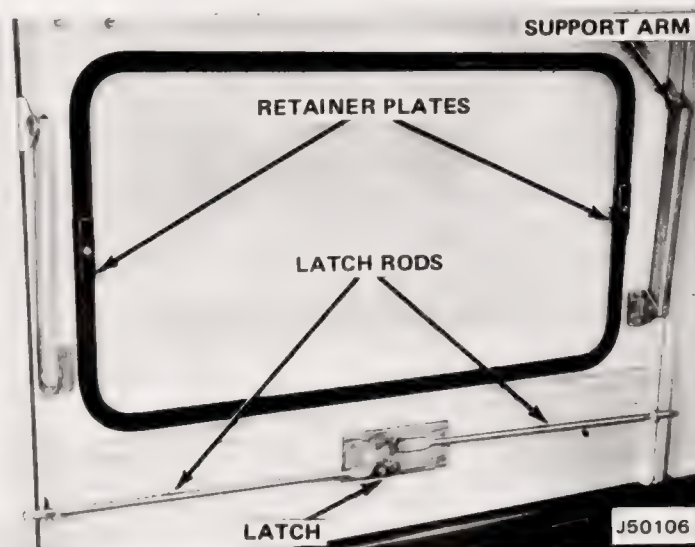

Fig. 2-38 Latch and Rod Assembly
above except that retainer plates are installed on each side of the window for rigidity (fig. 2-38 and 2-39).
- (1) Remove cotter pins, washers, and rubber spacers securing two rods to latch (fig. 2-38 and 2-39).
- (2) Drill out rivets securing latch assembly to liftgate.
- (3) Remove screws and lockwashers attaching outside handle to liftgate. Remove handle and gasket.